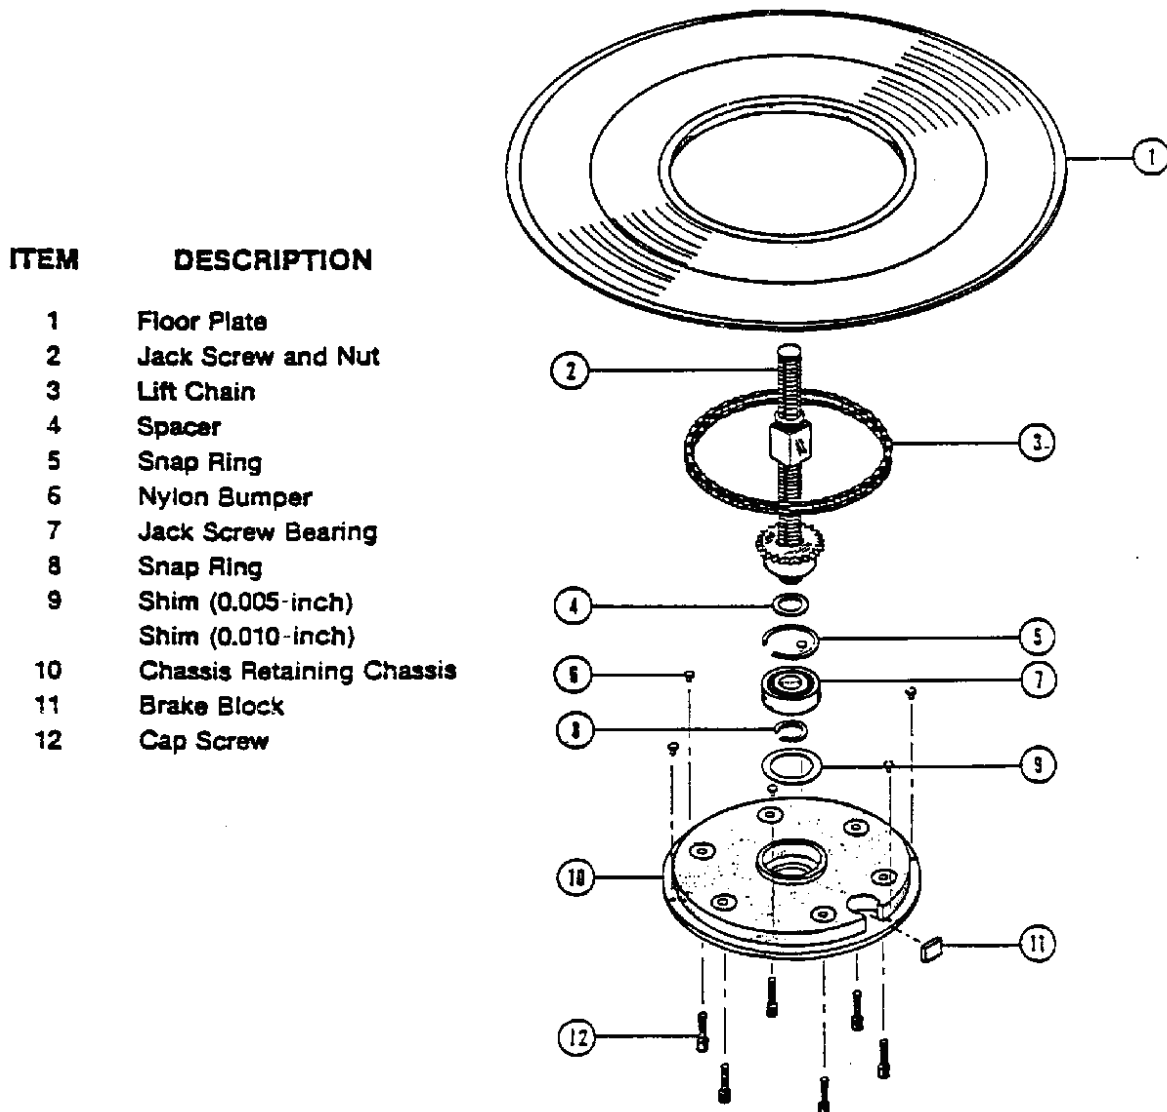

Figure 1-2. Floor plate assembly.
(1) Lubricate the screw jack and nut located in the floor plate assembly. Refer to figure 1-2, number 2.
(2) Lubricate the lift chain. Refer to figures 1-2, number 3.